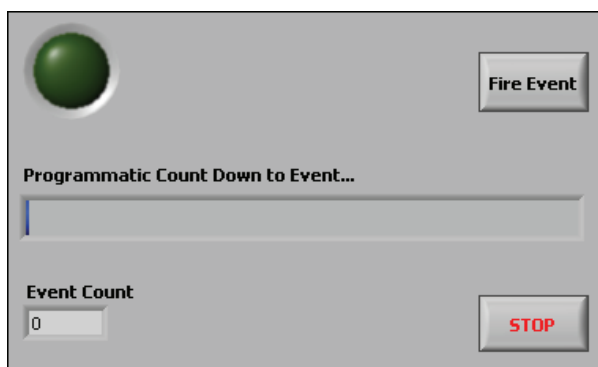
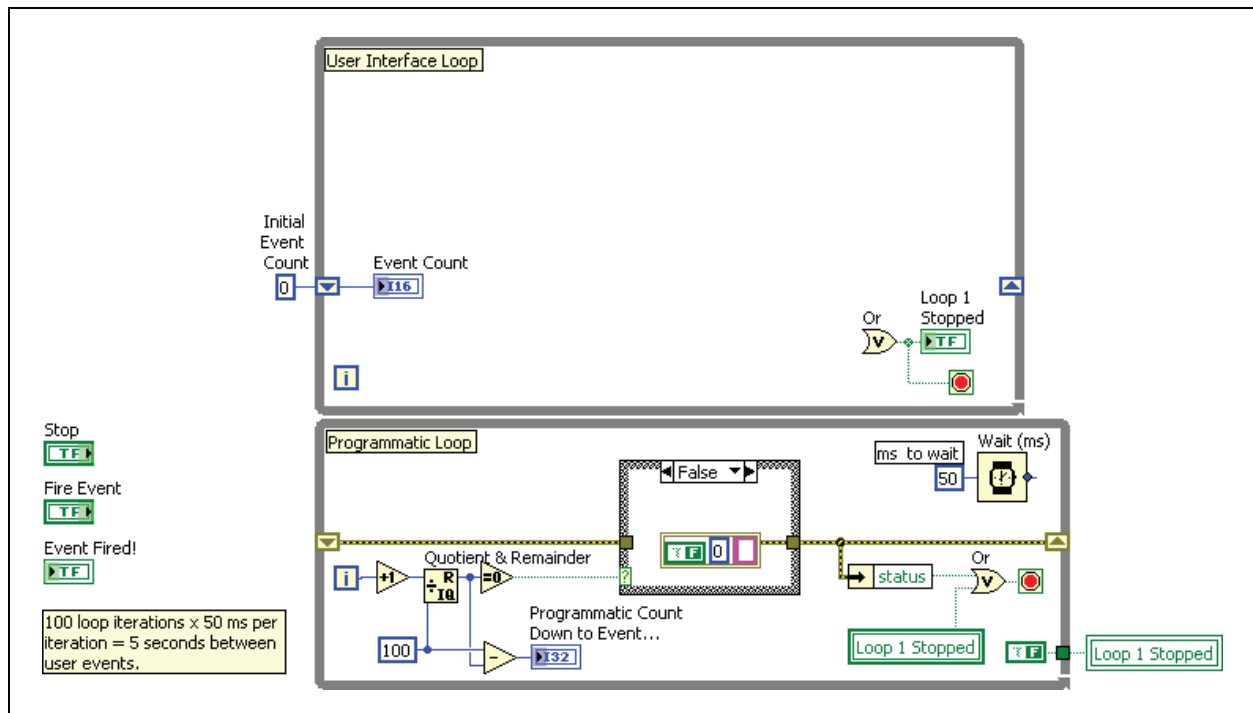

Figure 4-1. User Event VI Front Panel
Figure 4-2. User Event VI Block Diagram
1. Open `User Event.vi` from the `<Exercises>\LabVIEW Core 3\User Event Techniques` directory. Figure 4-1 and Figure 4-2 show the front panel and block diagram.